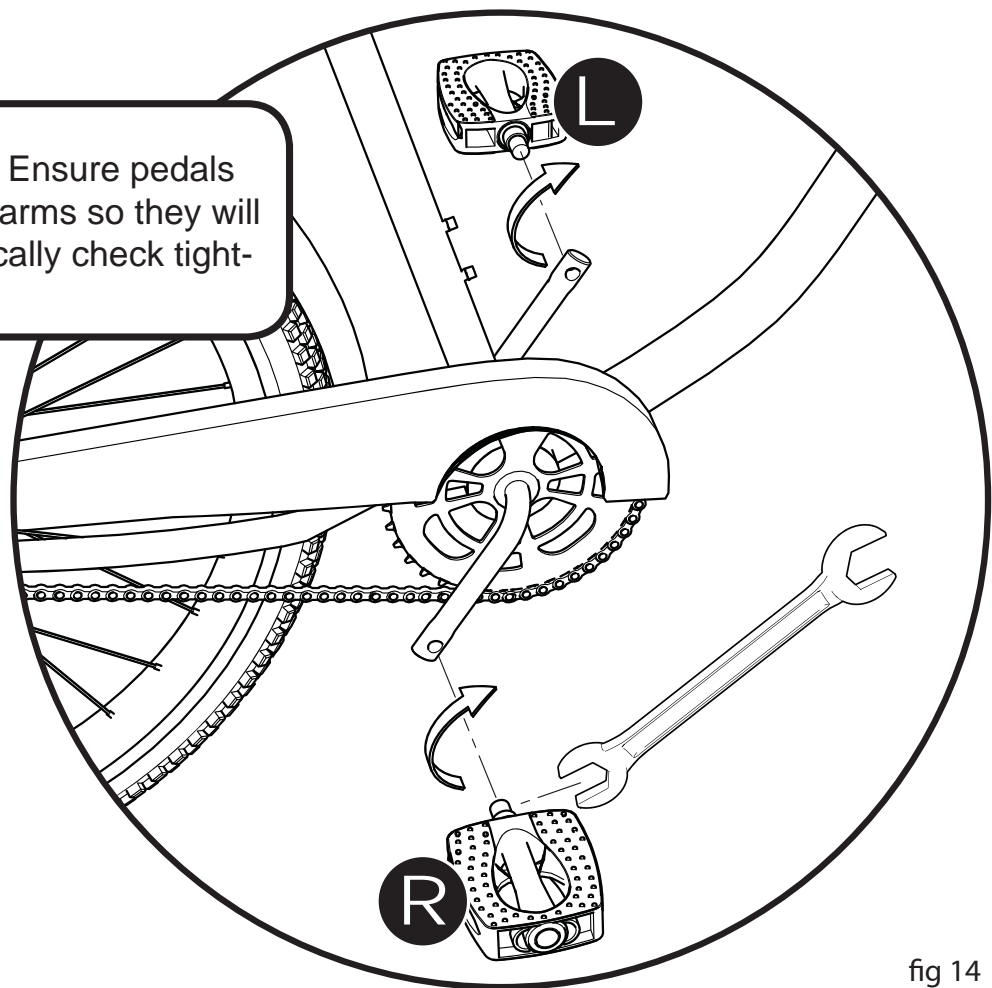

fig 14
### Tighten the pedals (fig 14):
### Check tightness of the cantilever mounting Bolt (A) (fig 14):